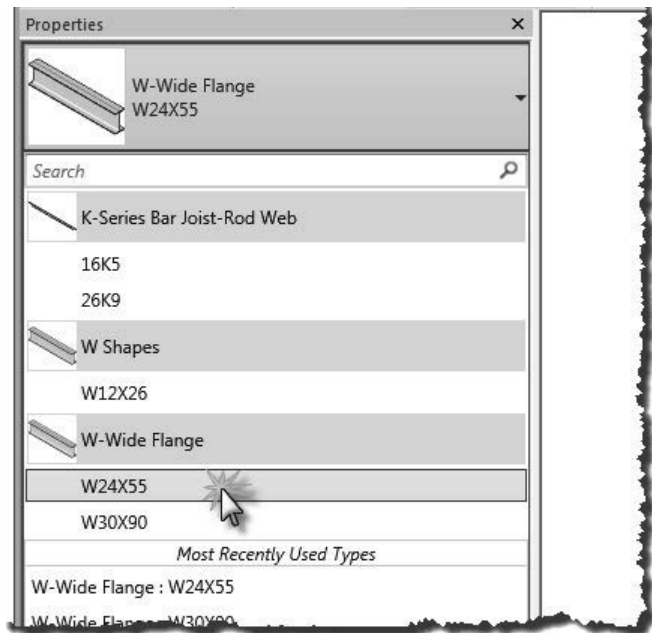

FIGURE 8-3.12 Beam tool active; picking a size via the type selector
28. Select **W24x55** from the *Type Selector*; see Figure 8-3.12.